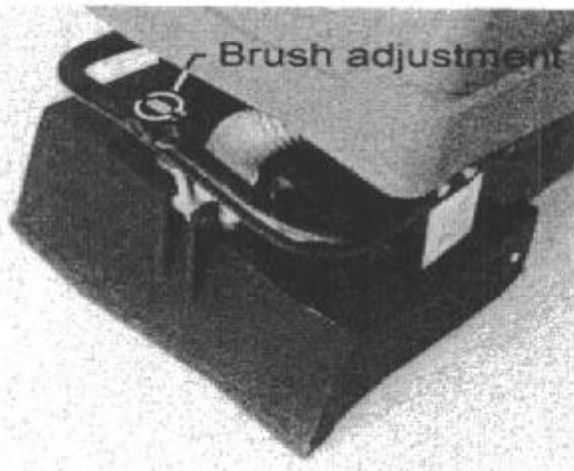

Fig.4
3. Adjust the machine brush height to suit carpet pile by means of the adjustment knob (Fig.4). **NOTE** - The adjustment knob is located at the rear of the machine on **Champ Supreme** and **Super Champ**. Turning the knob anticlockwise (-) lowers the brush. A guide for initial setting is to turn the brush motor on and lower the brush until the motor is heard to start taking load. Too low a setting may overload the motor, causing the cut-out to operate. Should the cut-out operate, wait a few minutes for the motor to cool, raise the brush a little and press the cut-out reset button. The machine should then restart and operate normally.